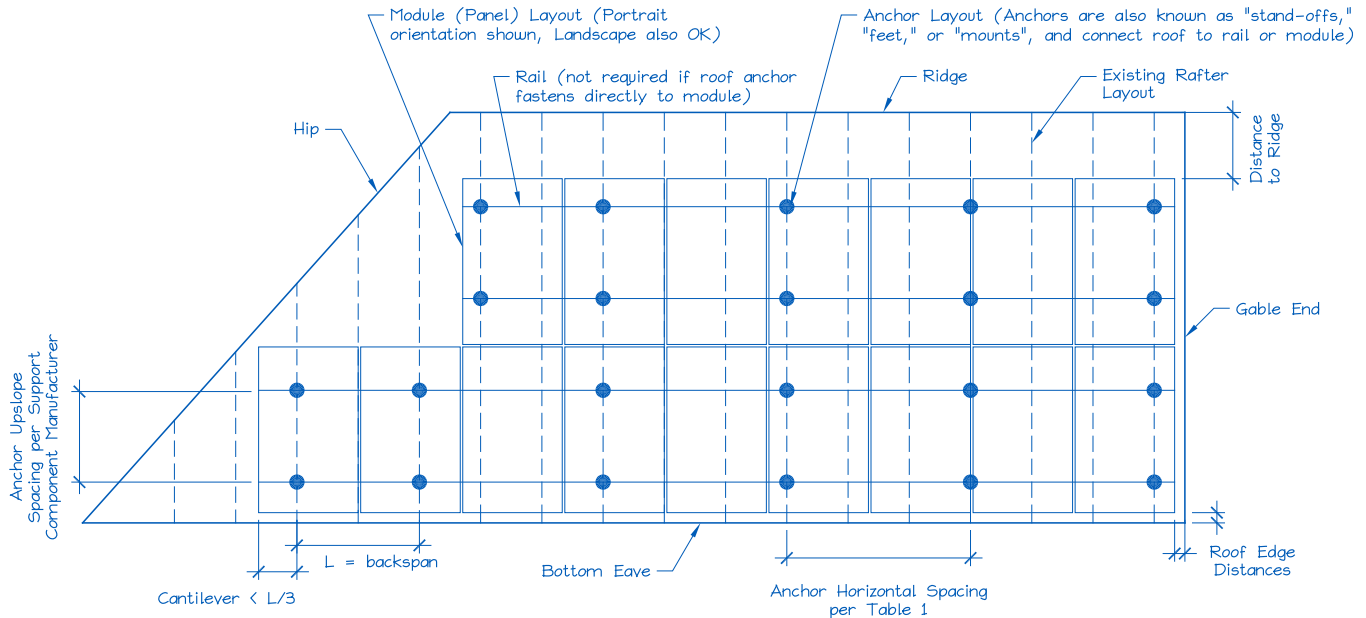

Figure 2. Sample Solar Panel Array and Anchor Layout Diagram (Roof Plan).
E. Is a roof plan of the module and anchor layout attached? (See Figure 2.)
- 1) Proposed anchor horizontal spacing (see Figure 2): _____' - _____"ft-in
1. Anchors are also known as "stand-offs", "feet", "mounts" or "points of attachment". Horizontal anchor spacing is also known as "cross-slope" or "east-west" anchor spacing (see Figure 2).